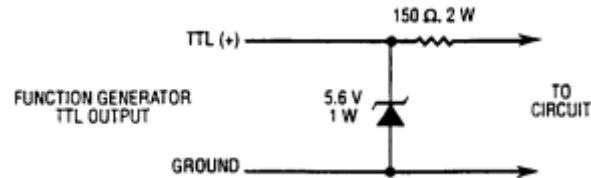

Figure 5. Circuit for Protection of TTL Output.
5. When the function generator is used by students or other inexperienced users, the circuit of Fig. 5 could be added into your TTL output probe or test clip set. It will protect the TTL output of the generator against external voltages up to ± 20 volts.